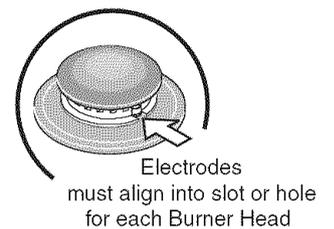

Figure 4
4. To replace Burner Heads & Caps, match the letters located under center of Burner Caps with the letters located inside Burner Head (only positions A & F are marked with letters - See Figure 2). Place all Burner Heads & Caps on the cooktop (See Figure 1) while carefully aligning the Electrodes into slots or holes of the Burner Heads (Figure 4). Note: The Burner Heads should sit flat on Cooktop Burner Skirts.